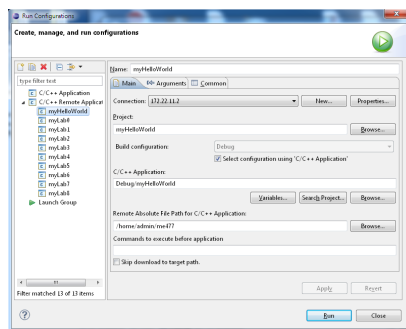

Figure 00.9: Launch Configurations.
9. Ensure that all items are checked and click **Finish**. To check that the import of the Launch Configurations was successful, select menu item **Run** > **Run Configurations...** and compare the dialog with **Figure 00.9**.